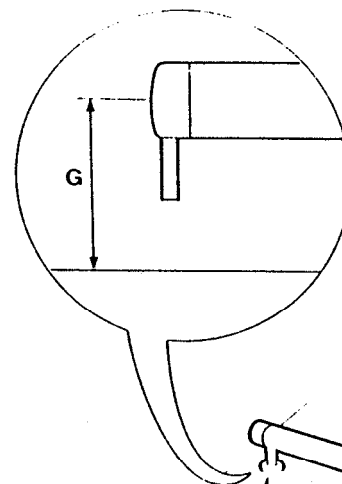

Fig. 8
- Measure dimension **G** (Fig.8) ensuring the Autohelm actuator is **horizontal**.